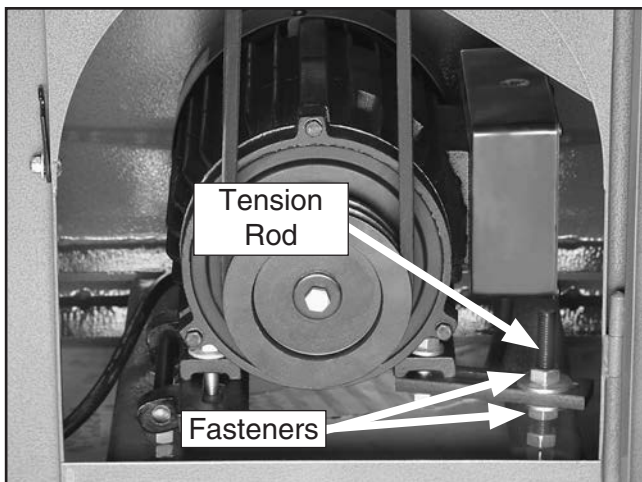

Figure 61. Fasteners needed to be loosened for V-belt replacement.
3. Loosen the fasteners on the tension rod that hold the motor to the bracket (**Figure 61**).